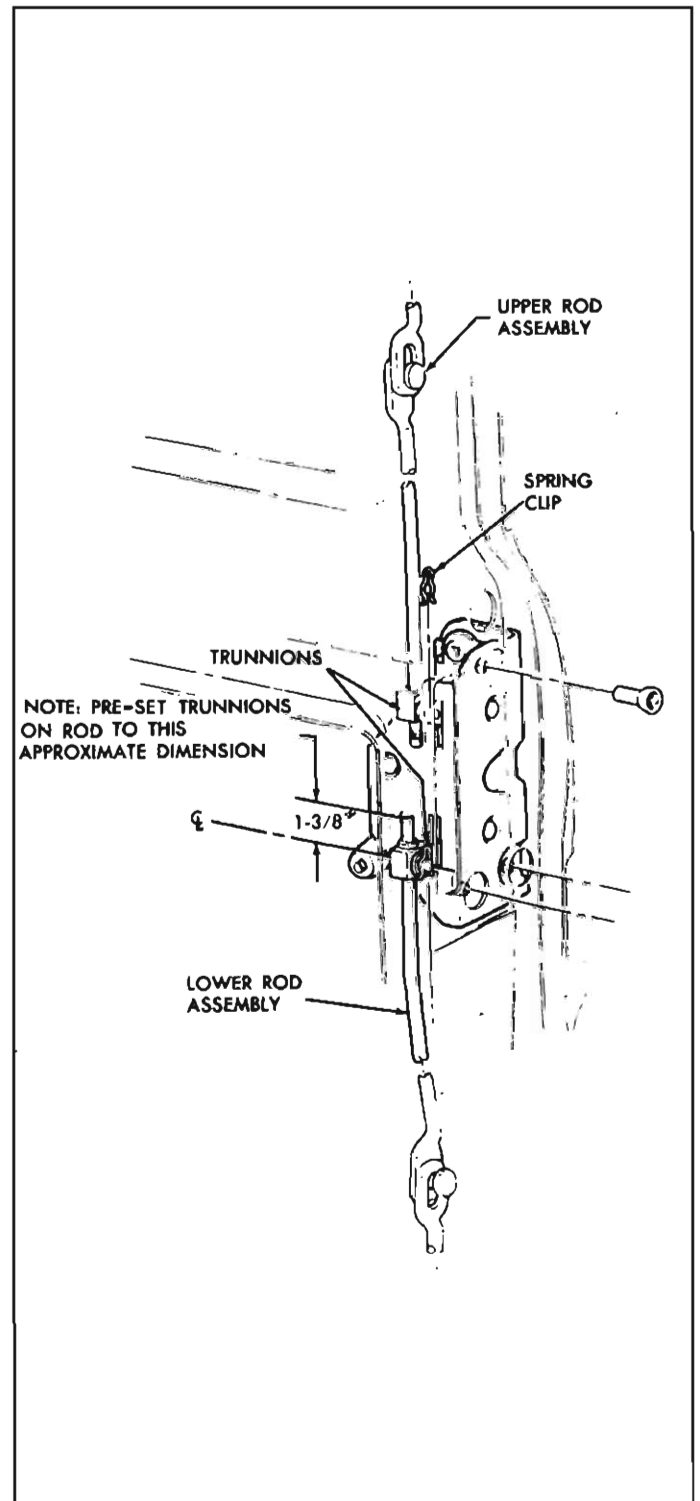

Fig. 79—Pull Rod Adjustment
Pull Rod Adjustment (fig. 79)
2. If rods and trunnions are disassembled, screw rods into trunnions until a pre-set dimension of 1 $\frac{3}{8}$ " is obtained as shown in Figure 79.